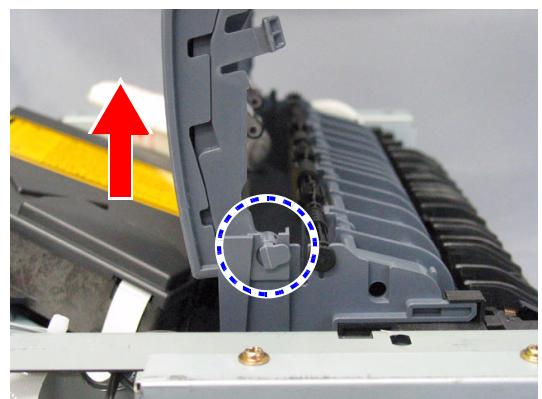

Figure 4-16. Removing the Paper Exit Open/Close Cover
4. Turn the Paper Exit Cover by 90 degrees, and remove the Paper Exit Cover from the right and left shaft holders. (See Figure 4-16)